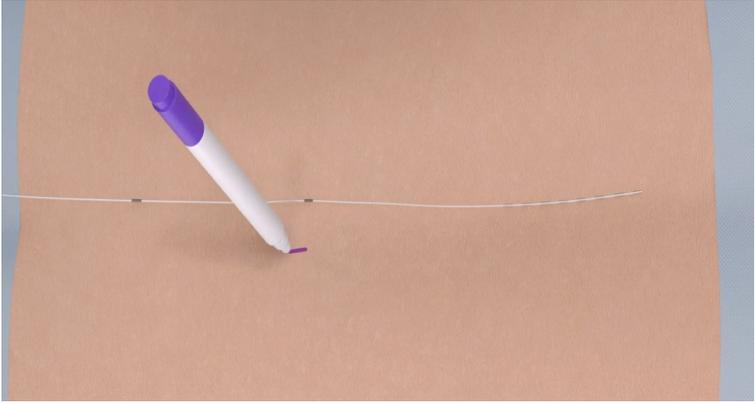

Figure 1
2. Mark the incision site using a skin marker at the first marker band on the skin (see Figure 1).